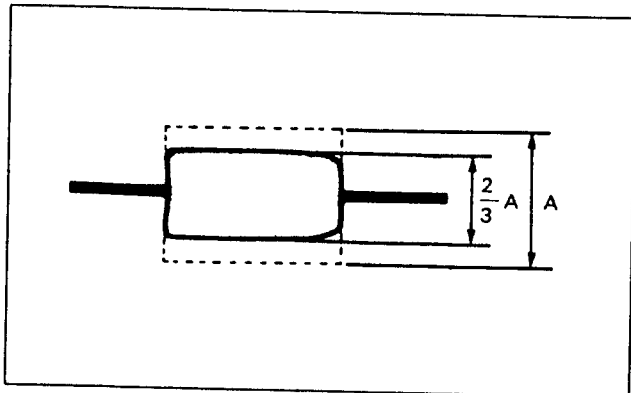

Fig. 2-39.
- 1) Run the tracking adjustment tape ; switch the SHIFT TRACK on and the RF wave form becomes about $\frac{2}{3}$ of its maximum amplitude (see Fig.2-39).
- 4) Rotate TG4 nut 90° clockwise. Repeat step 3). Repeat steps 3) and 4) until a correct waveform is obtained. Note that the tracking waveform (Fig. 2-39) remains unchanged during these steps. If it varies, fine adjust tracking at entrance side and go to step 3) again.